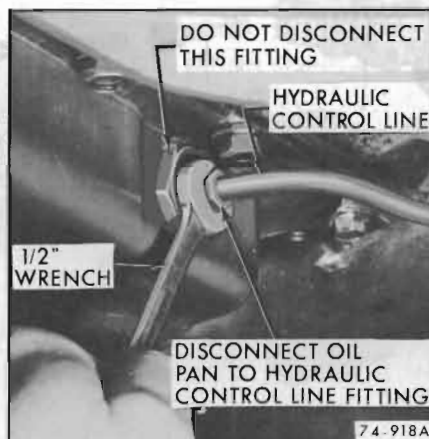

Figure 75-918—Disconnecting Hydraulic Control Line Fitting
1. Disconnect oil pan to hydraulic control line fitting using a 1/2" wrench. See Figure 75-918. Allow pan to drain. **DO NOT DISCONNECT THE OIL PAN FITTING AS DAMAGE TO THE ACTUATING VALVE SOLENOID WILL RESULT.** See Figure 75-918.
2. Remove fourteen (14) oil pan attaching bolts.